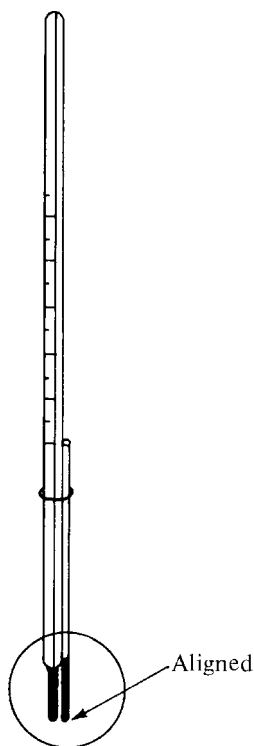

Figure 13.3
- Attach the melting-point capillary tube to the thermometer by means of a rubber ring. Align the mercury bulb of the thermometer so that the tip of the melting-point capillary containing the solid is next to it (Figure 13.3).